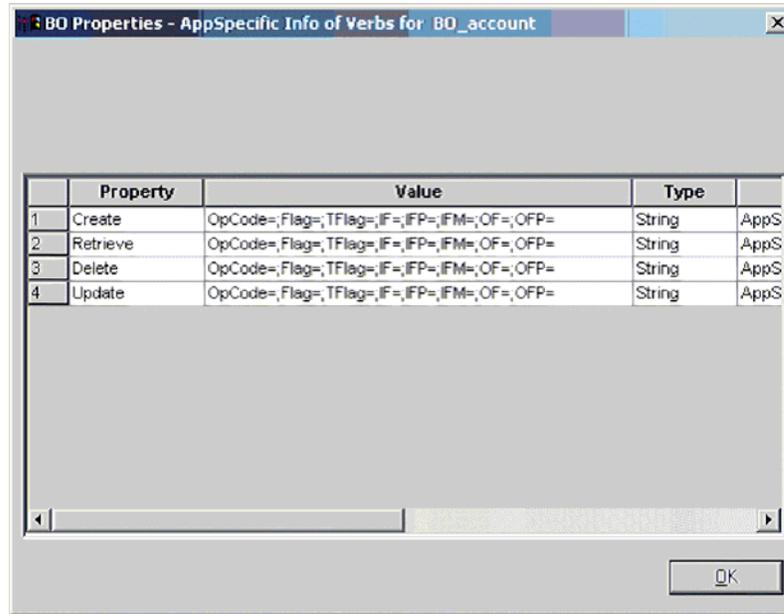

Figure 23. Application-specific information for verbs
- The verbs specified in the BO Properties window (Figure 23)
PortalODA generates the verbs specified in the BO Properties window (as illustrated in Figure 23 on page 63). It creates an AppSpecificInfo property for each verb but does not populate it.